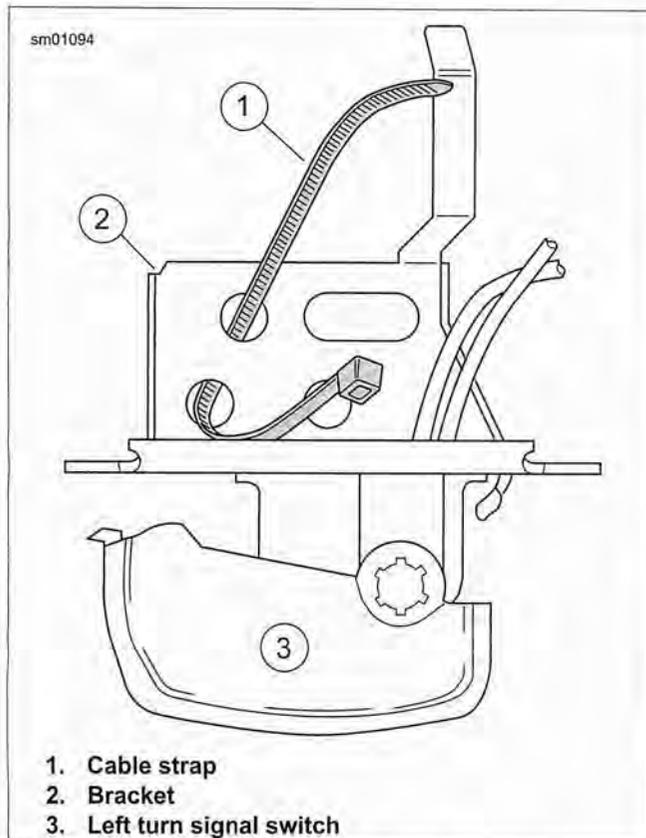

Figure 6-152. Insert Cable Strap in Switch Bracket
1. See Figure 6-152. Insert tapered end of **new** 7.0 in (177.8 mm) cable strap (1) into round hole in turn signal switch bracket (2) and then feed back through using the adjacent hole. Reserve the oblong hole for the bracket screw.